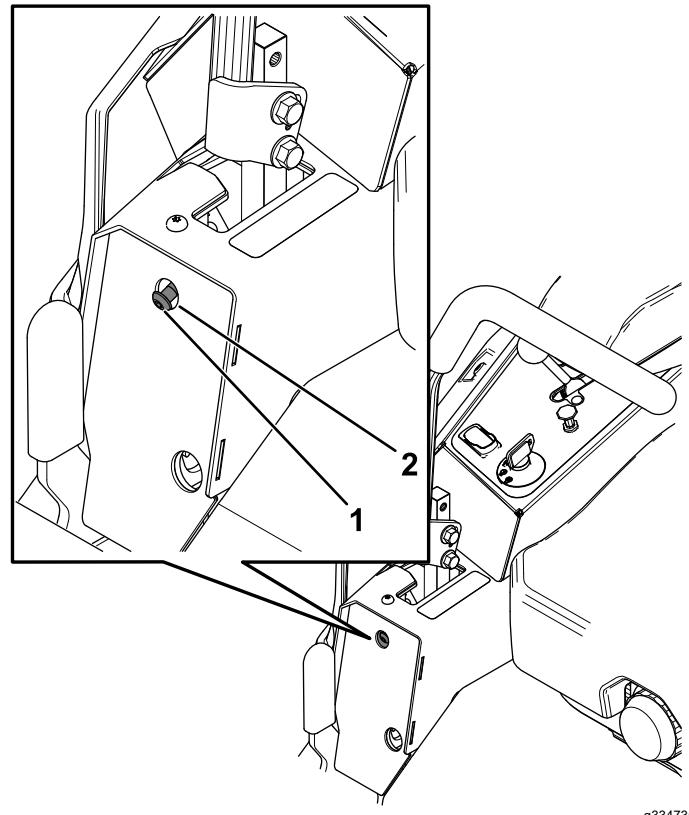

Figure 77
6. If the machine tracks to the right, insert a 3/16 inch hex wrench through the access hole in the left, front cover panel and rotate the tracking screw clockwise or counterclockwise to adjust the travel of the lever (Figure 77).
7. If the machine tracks to the left, insert a 3/16 inch hex wrench through the access hole in the right, front cover panel and rotate the tracking screw clockwise or counterclockwise to adjust the travel of the lever (Figure 77).